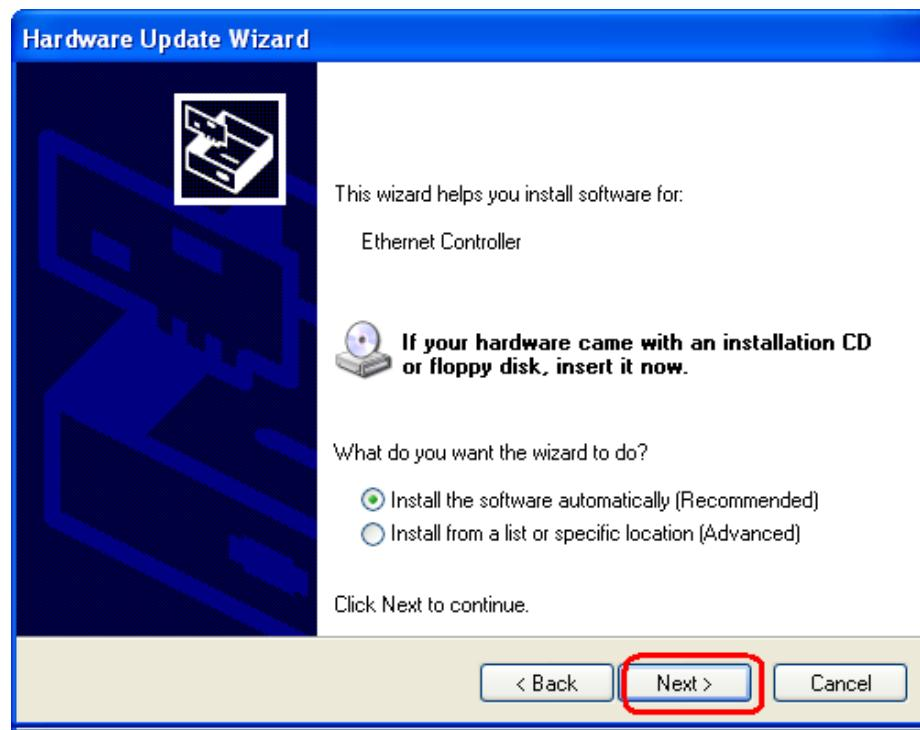

Figure 7-28: Ethernet Driver Installation Start
Step 51: The screen in **Figure 7-28** appears.
Step 52: Select the recommended option in **Figure 7-28**.